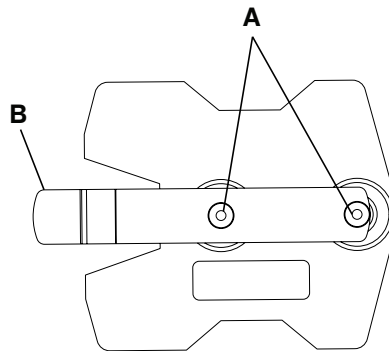

Figure 52 – Mounting bracket
To install the mounting bracket (Figure 52):
1. Use the **SMRT** charger mounting bracket as a template to mark the location of the mounting holes (A) at the area where you will install the mounting bracket.
- a. Spring tab (B) is located at the rear of the **SMRT** charger.
**Note** - When mounting the bracket to a vertical surface, the spring tab should be horizontal with the spring tab point to the left (Figure 52).